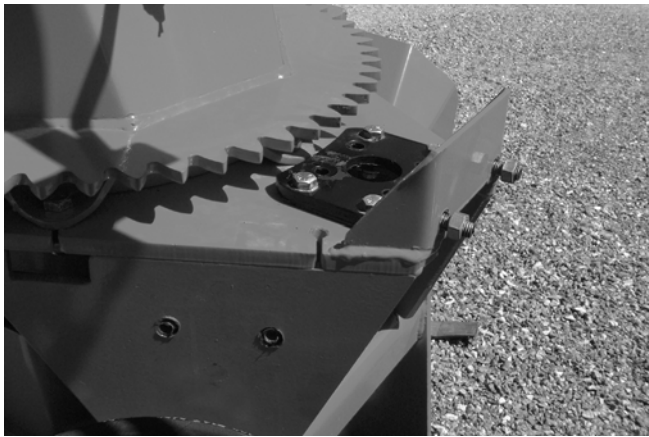

Figure 25
- 2) Install the mounting plate; put the required spacers between mounting plate and base of chute ( see p. 35 to 40 for chute model). Do not tighten the bolts immediately, they will be tightened at final adjustment (Fig. 25).